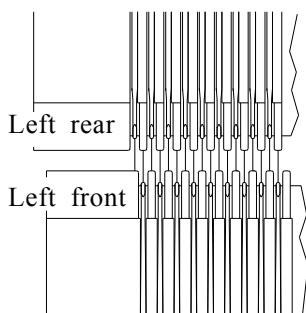

Fig.7.9.1 Initial position of needle bed
The rear bed can be racked four (4) inch(left right each 2 inches), the initial position"0". See the left selvedge of needle bed, the corresponding position that the first needle of rear is on the left hand side of the first needle of front. As shown in Fig.7.9.1.In editing instruction you can choose the left racking or the right racking by one pitch.